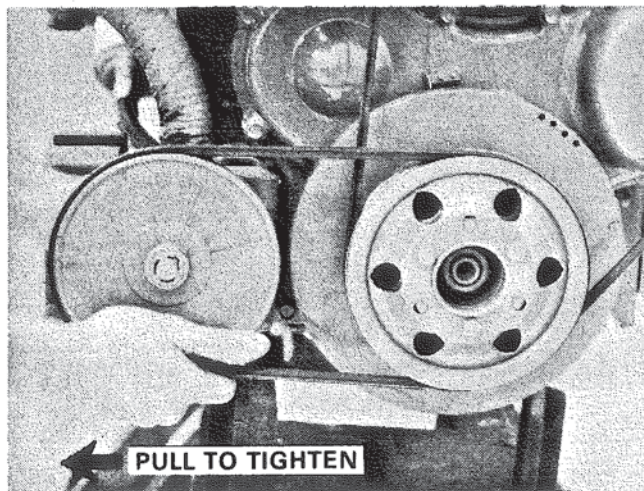

Figure 25. Adjusting Drive Belt.
1. Loosen raw water pump mounting screws, Figure 25.